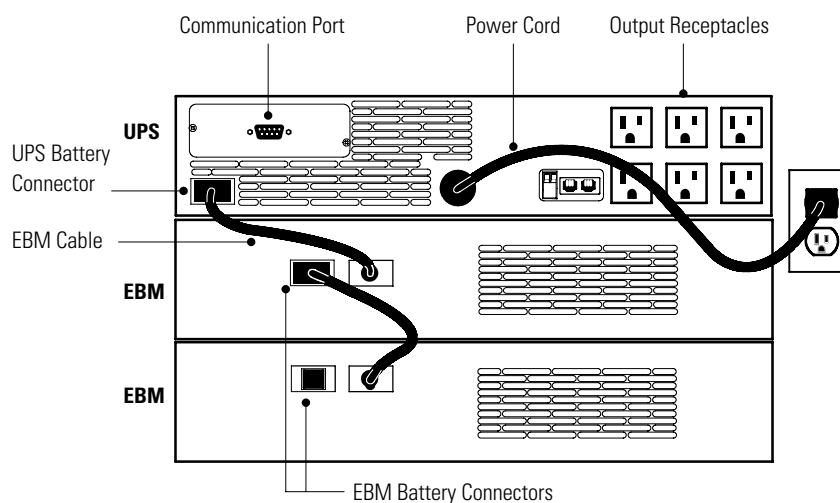

Figure 11. Typical UPS Installation with Two EBMs
Figure 11 shows a typical installation only. See “UPS Rear Panels” on page 29 for the rear panel of each model.
2. Plug the EBM cable(s) into the battery connector(s) as shown in Figure 11. Up to four EBM(s) may be connected to the UPS.